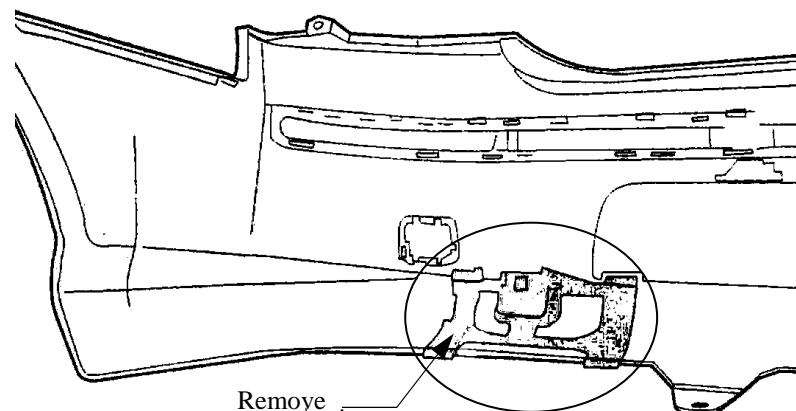

Fig. 2
2. Disassemble bumper cover. Under cover is placed plastic reinforcement. On the left side of this reinforcement unscrew 4 bolts M8. Put left fishplate (pos. 5) in this way, so 4 holes in the fishplate agree with holes in the reinforcement. Fix loosely using bolts M8x50mm (pos. 13) from accessories, remember – put 2 bolts M12x40mm (pos. 11) before fix, see drawing.
3. Next make the same actions on the right side. Unscrew 4 original bolts M8. Put right fishplate (pos. 4) in this way, so 4 holes in the fishplate agree with holes in the reinforcement. Fix loosely using bolts M8x50mm (pos. 13), remember – put 2 bolts M12x40mm (pos. 11) before fix, see drawing.
4. On protruding from fish-plates bolts M12 put side brackets pos. 8 and 9, next fix it by bolts M12x40mm (pos. 11).
6. According to the drawing put side handles pos. 6 and 7 and fix it by bolts M10x40mm (pos. 12) to chassis members and next between mounted elements put main bar of the towbar (pos. 1) and fix it to already mounted side elements by bolts M12x40mm (pos. 11).
8. Fix tow-ball (pos. 2) using bolts M12x75mm (pos. 10) from accessories.
9. Fix the socket plate (pos. 3) as shown on the drawing.
10. Reinstall the bumper after remove element show on figure 2.